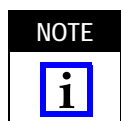

Figure 1
Insertion Tool 455830-1 is designed to insert a Universal MATE-N-LOK* pin or socket contact into a connector housing. See Figure 1. Read these instructions thoroughly before using the tool.
3. INSERTION PROCEDURE (See Figure 1)
It is recommended that the insertion tool be inspected immediately upon arrival and at regularly scheduled intervals to ensure that the tool has not been damaged. The insertion tool should be inspected using the dimensions provided in Figure 1.